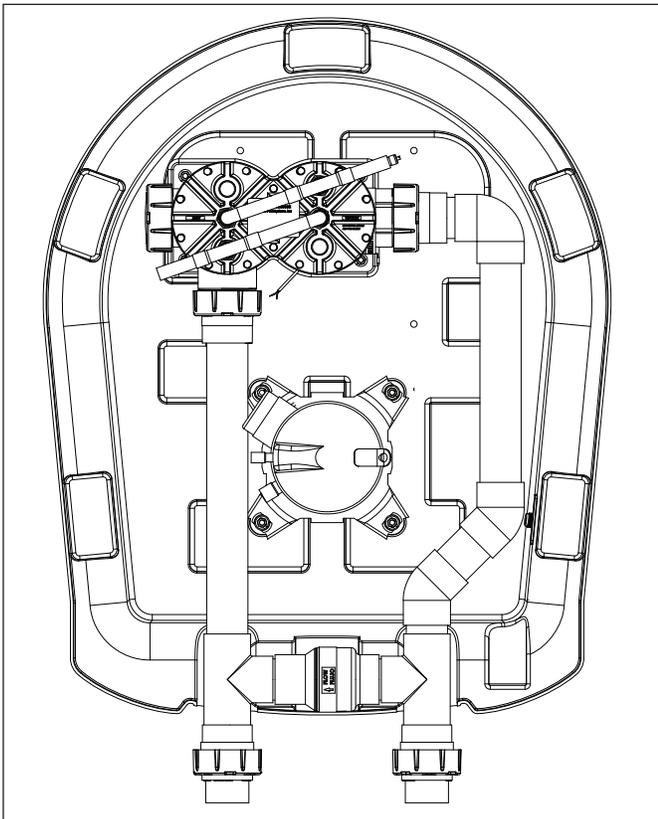

Figure 10. EE2000, EE2500, EE3000 Base Layout
1. Place the heat exchanger on the back of the base and connect the inlet and outlet of the heat exchanger to the plumbing tree. See Figure 10.